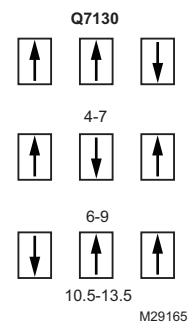

Fig. 2. DIP switch reference.
2. Select desired voltage range using the three-position switch reference chart for dip switch settings (see Fig. 2).